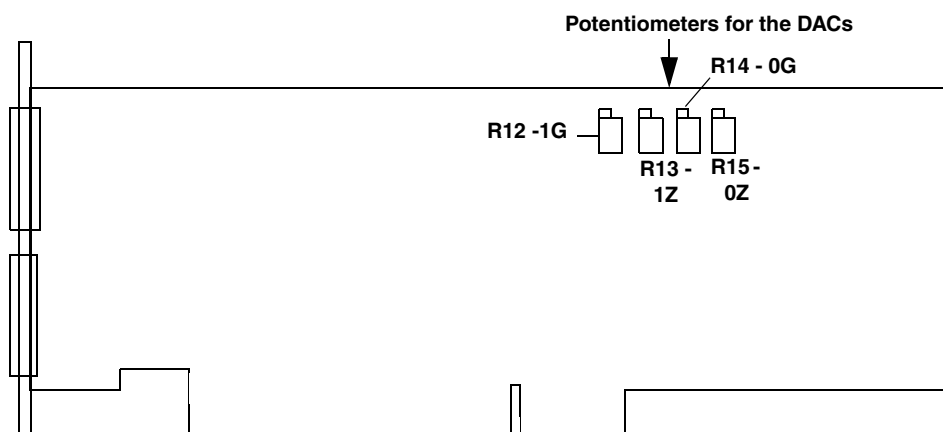

Figure 79: Location of Potentiometers R12 to R15 on the DT3016 Board
8. Physically adjust potentiometer R15 (labelled 0Z) on the DT3016 board until the display reads -9.3750 V (within 0.001 V). Figure 79 shows the location of this potentiometer.
10. Physically adjust potentiometer R14 (labelled 0G) on the DT3016 board until the display reads +9.3750 V (within 0.001 V). Figure 79 shows the location of this potentiometer.
13. Physically adjust potentiometer R13 (labelled 1Z) on the DT3016 board until the display reads -9.3750 V (within 0.001 V). Figure 79 shows the location of this potentiometer.
15. Physically adjust potentiometer R12 (labelled 1G) on the DT3016 board until the display reads +9.3750 V (within 0.001 V). Figure 79 shows the location of this potentiometer.